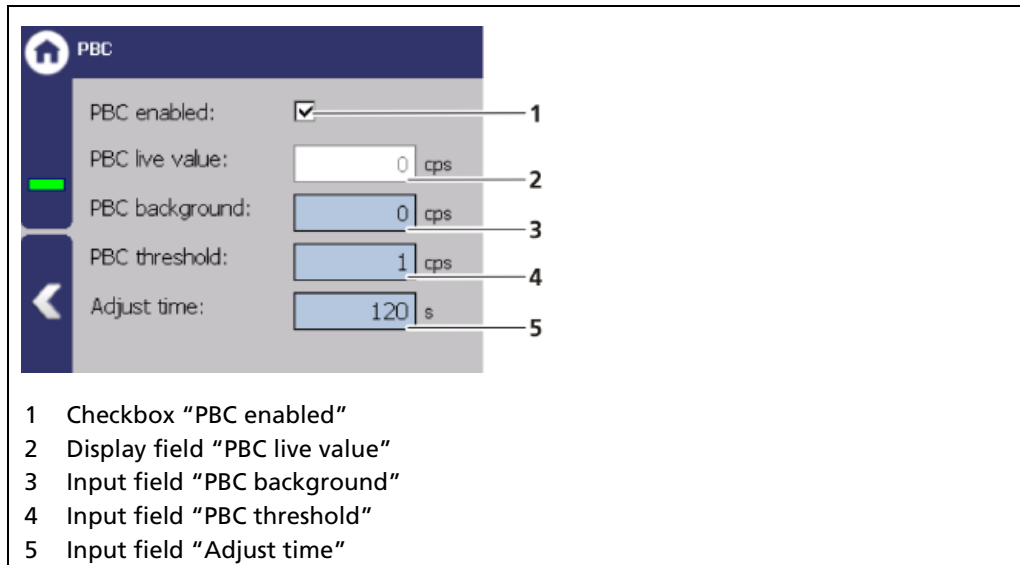

Fig. 75 PBC
1. Click on the input field "PBC background" (Fig. 75, item 3).